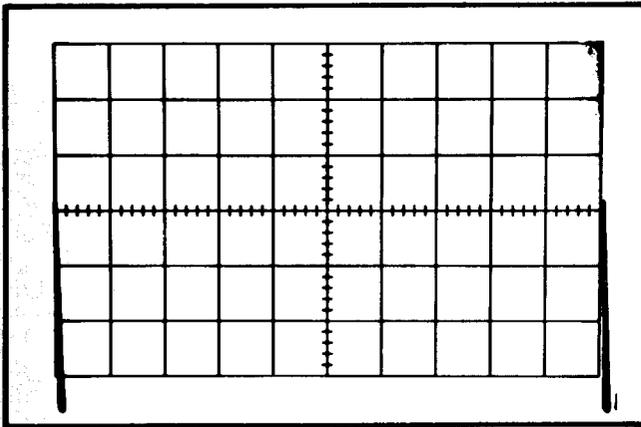

Fig. 5-18. Typical CRT display when checking delayed-sweep accuracy.
- b. CHECK-Using the A TIME/DIV switch, B TIME/DIV switch and time-mark generator settings given in Table 5-4, check delayed sweep accuracy within the given tolerance. First set the DELAY-TIME MULTIPLIER dial to 1.00 and rotate the dial until the sweep starts at the top of the second marker (see Fig. 5-18). Note the dial reading and then set the dial to 9.00 and rotate slightly until the sweep starts at the top of the tenth marker. DELAY-TIME MULTIPLIER dial setting must be 8.00 divisions higher, + or - the allowable error given in Table 5-4.